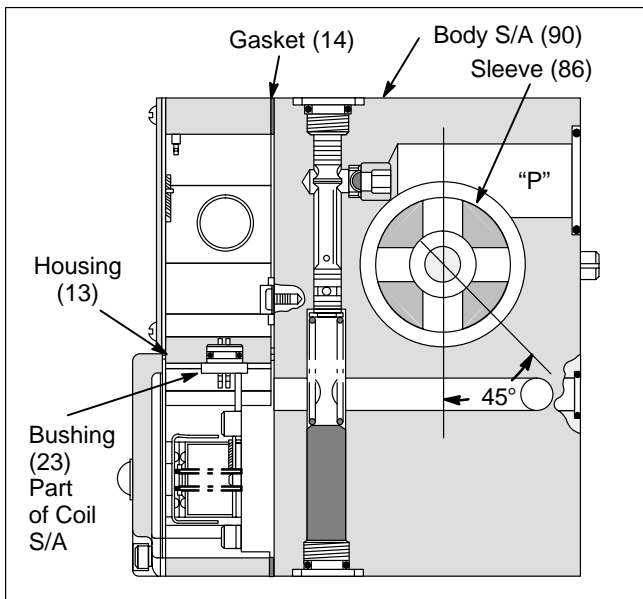
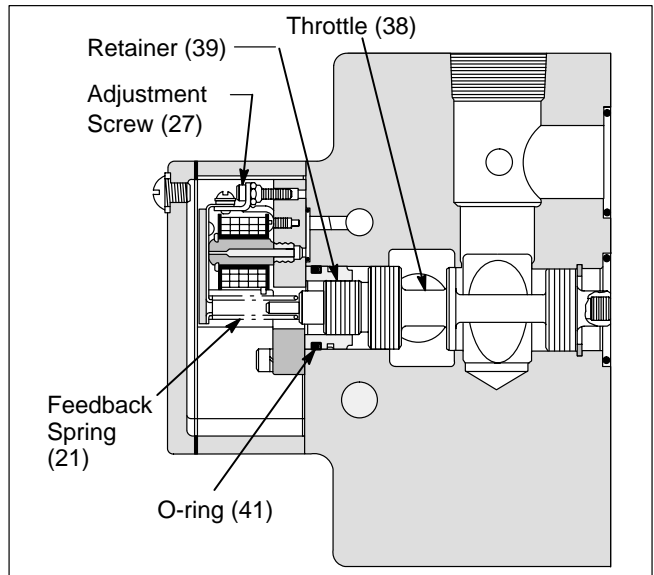

Figure 2. Sectional View Showing Hydrostat Sleeve Orientation.
Figure 6. Sectional View of Throttle Arrangement.
8. Install parts (50) thru (39). Use care when installing retainer (39). Do not shear O-ring (41). (See Figure 6.)
d. Install feedback spring (21) over end of throttle (38). See Figure 6.
e. Assemble first stage subassembly (17) to body S/A (90). Check to be sure O-ring (34) is in place. Use screw (15) and lockwashers (16). Tighten securely. Check feedback spring (21) to be over the tang of the flapper. If not, rotate the spring until it rests over the tang, flat against the flapper.
12. Assemble gasket (14) and housing (13) use screws (12) and (11). Install the bushing and O-ring (part of coil (27) thru the hole in center section of housing (13). Press in place with a suitable tool. (See Figure 2.)
*Do not disturb flapper alignment. Position coil wires under clamp (73) and away from flapper subassembly (20). Tighten screw (72) securely.*
13. Assemble parts (10) thru (1). Screws (7) and (1) should be hand tight; they will be removed during test.
a. Before mounting valve on subplate, manually shift throttle (38, Figure 6) fully in. Use a screw driver or similar tool. Throttle must move freely without restriction.